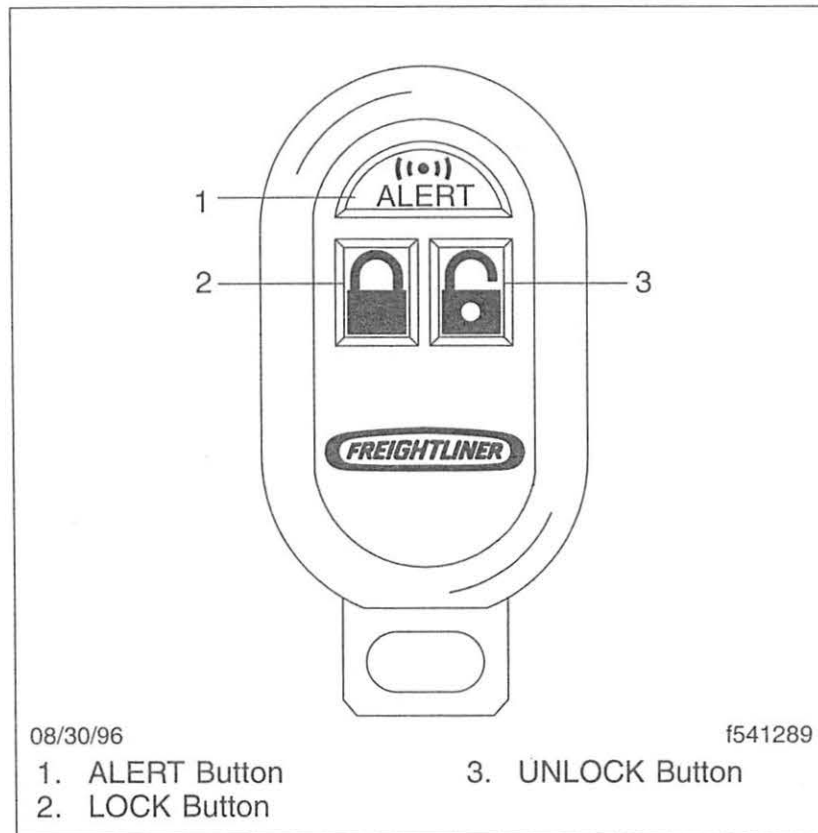

Fig. 3.9, Key Chain Fob (radio transmitter)
- A hand-held radio frequency transmitter that looks like a key chain fob. It acts as a remote control for locking the doors, unlocking the doors, or placing the system on alert. Each system allows as many as four different fobs. See **Fig. 3.9**.
3. On the fob, press down both the LOCK and UNLOCK buttons at the same time and hold them down for at least three seconds. See **Fig. 3.9**. If the code was learned, the system LED flashes and the doors unlock.